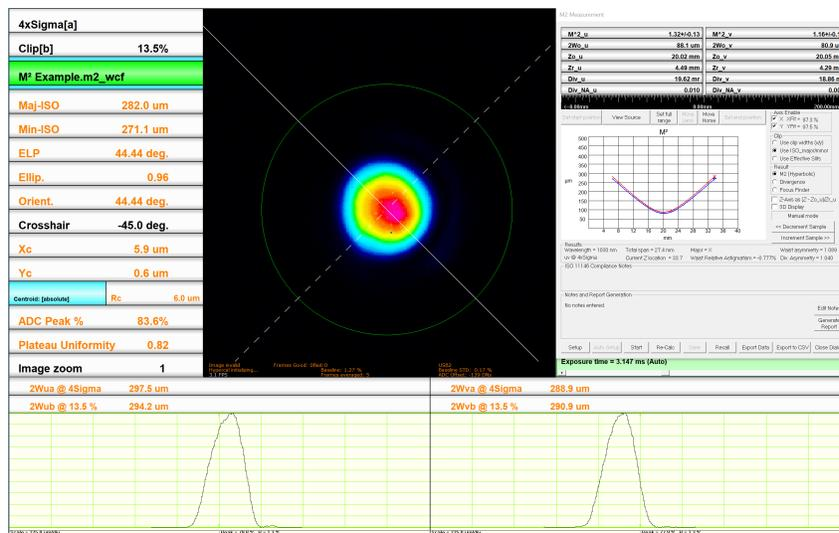

Figure 9.15: Save data using Save in the M2 Measurement dialog.
6. Press **G** or click on the green highlighted cell as shown in Fig. 9.15 to start a capture. Verify that Peak ADC is <90%. If it is not, revisit Chapter 5.